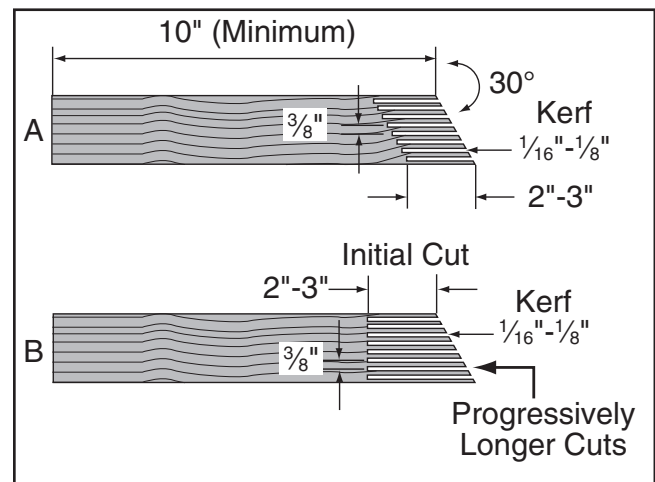

Figure 69. Patterns for featherboards (top view).
3. Make series of end cuts with the grain $\frac{3}{8}$ "- $\frac{1}{4}$ " apart and 2"-3" long, as shown in **Figure 69** (A). Alternatively, start cuts at 2"-3" deep, then make them progressively deeper, as shown in **Figure 69** (B).